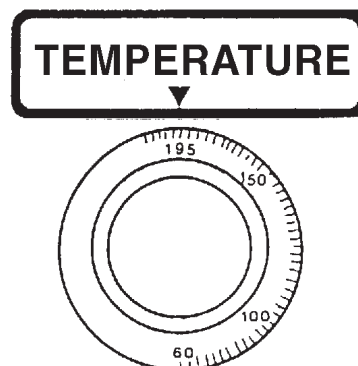

Fig. 2 Temperature Selection
4. **Temperature Selector**—Select temperature per type of load being dried in the dryer. (figure 2 on page 26.)